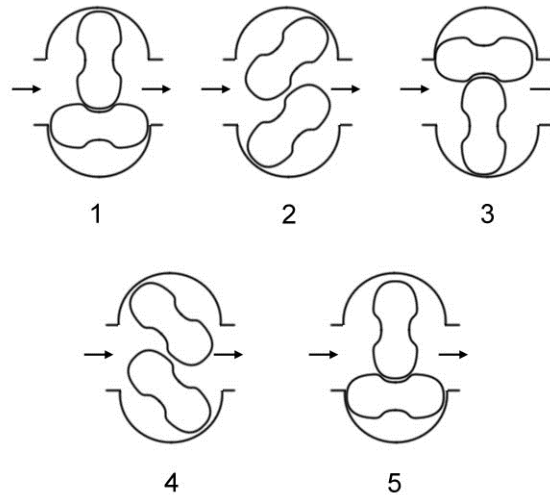

Fig 2. Principle of Operation of a Roots-type pump
The principle of operation is explained in figure 2.
During the operation the pumped gas enters the space between the rotors and the pump body via the gas inlet. At this time a rotor body will enclose the gas away from the inlet and the gas will be conveyed to the outlet with the continuous rotation of the rotors. In position (1) of Fig. 2, the gas in V_0 is enclosed, thus there is no compression or expansion. As the top of the rotor reaches the edge of the outlet, the gas is exhausted to the outlet side; thus compressed to the pressure at the outlet. Meanwhile, the inlet side of the rotor at the suction connection will draw in more gas.